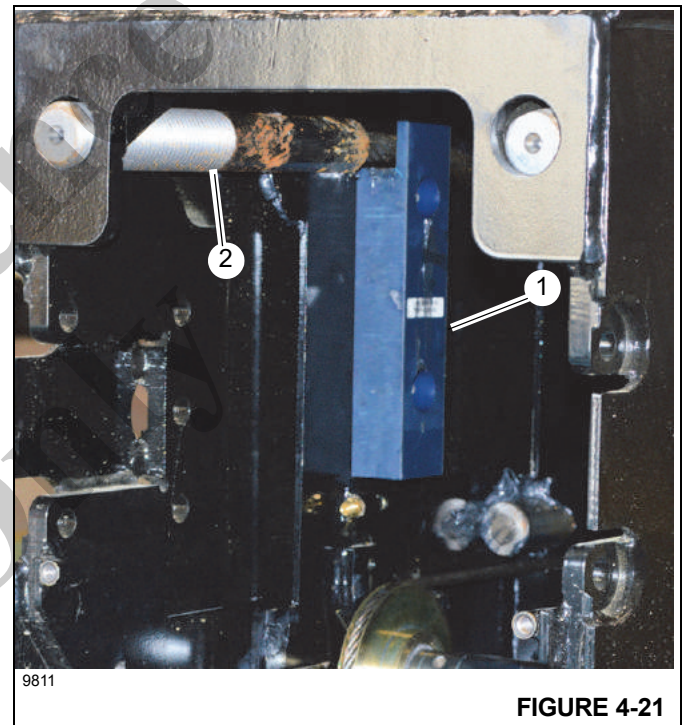

FIGURE 4-21
4. Install 3/4/5 extend cable retaining wear pads (11, Figure 4-18 and 1, Figure 4-21) inside the base of the Tele 3 section boom using capscrews (10, Figure 4-18), washers (9), and nuts (8). Keep 3/4/5 extend cables (2, Figure 4-21) between opening of the pad and the side plate of the Tele 3 section boom with the threaded end of 3/4/5 extend cable beyond base of Tele 3 section boom and the cable retaining pad.